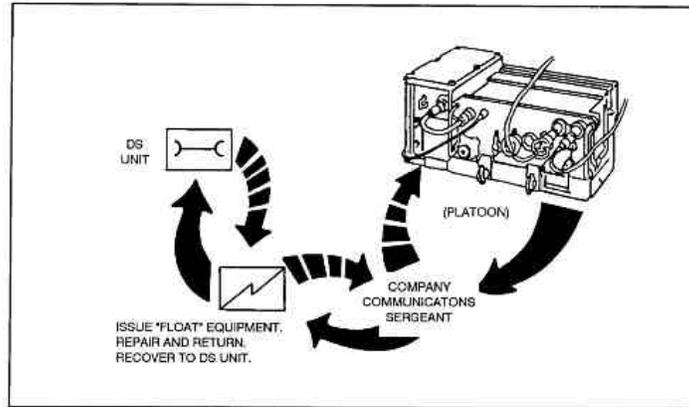

Figure 9-7. Communications equipment flow diagram.
- c. When items are turned in to either the maintenance or communications platoon, a receipt (DA Form 2402, Exchange Tag) is used to show that the platoon turned in an item for repair or calibration. When the repaired item is returned, the exchange tag receipt is given back to the maintenance platoon (Figure 9-7).